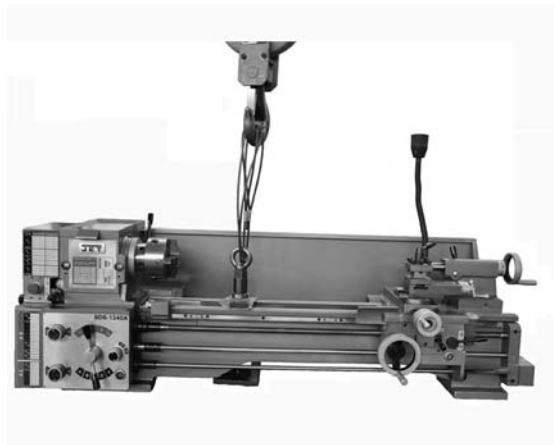

Figure 3
4. Assemble parts fastened to the crate bottom used to lift the lathe. See Fig. 3. (**Note:** Lifting parts are not tightened in Fig. 3 to show detail.) Using a piece of leather or a block of wood under the metal block to protect the ways during lifting is highly recommended. **Do not lift the lathe by the spindle.** With adequate lifting equipment, slowly raise the lathe off the shipping crate bottom. Make sure lathe is balanced before moving to a sturdy bench or optional stand.